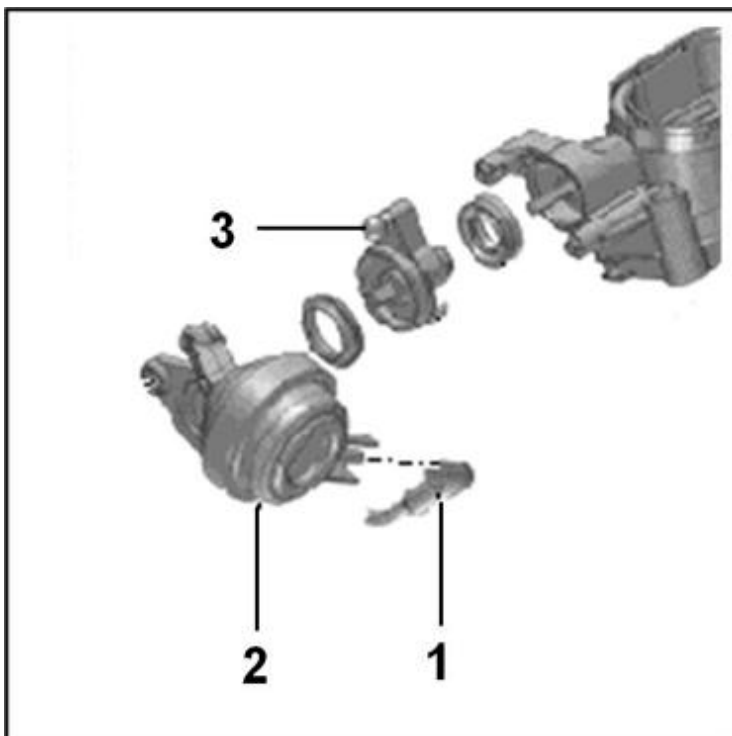

Figure 4. Vacuum hose (1), vacuum actuator (2), and ball head (3)
3. Disconnect the vacuum hose (Figure 4, 1), then pry the vacuum actuator (Figure 4, 2) off of the ball head (Figure 4, 3).